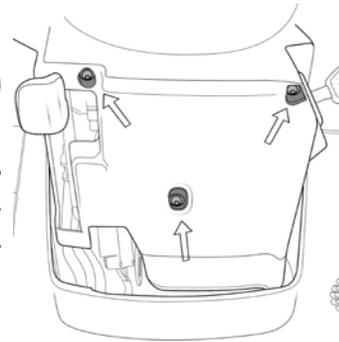

Figure 48
- c. Remove the three T-20 Torx head screws from the lower steering wheel trim panel (fig 48)